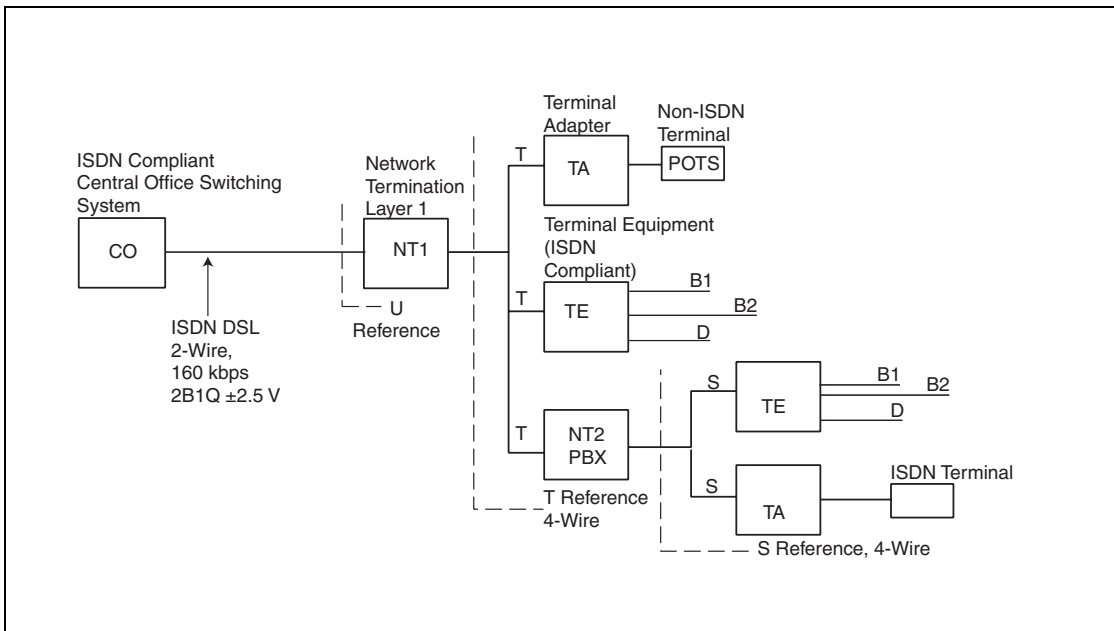

Figure 3.11 ISDN Overview
Integrated Services Digital Network (ISDN) circuits require protection at the Network Termination Layer 1 (NT1) U-interface and at the Terminating Equipment (TE) or Terminating Adapter (TA) S/T interface. Signal levels at the U-interface are typically ± 2.5 V; however, with sealing currents and maintenance loop test (MLT) procedures, voltages approaching 150 V rms can occur. (Figure 3.11)